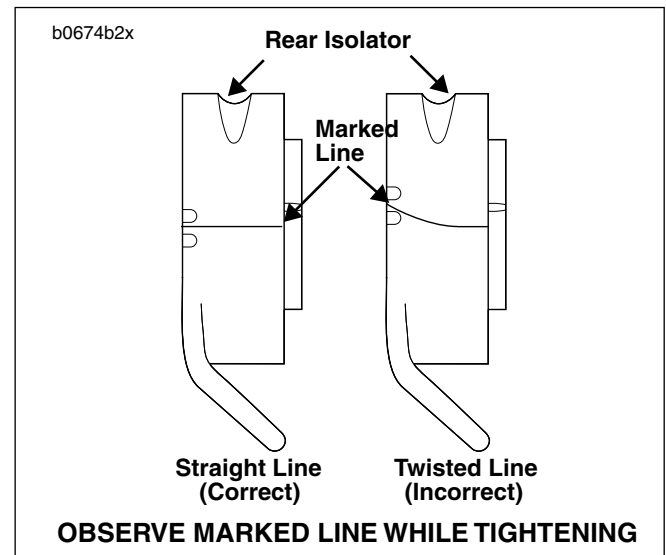

Figure 6-9. Isolator Alignment
- Observe seam on rubber isolator after isolator bolt is tightened. If seam twists, apply more **LOCTITE ANTI-SEIZE** to underside of isolator bolt heads. Failure to comply will result in damage to rubber isolators. See Figure 6-9.
- f. See Figure 6-9. After tightening TORX isolator bolt, verify that seam on isolator is perpendicular to swingarm mount block.